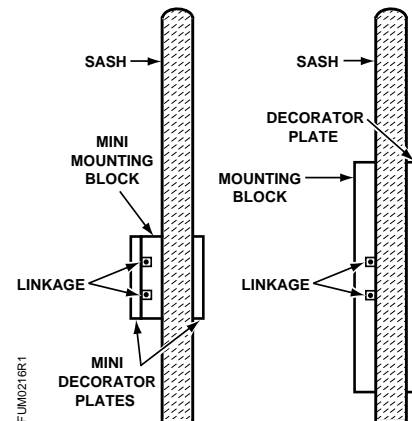

Figure 12. Mounting Block and Decorator Plate Installation for Regular and Mini Mounting Blocks.
11. **For linkage blocks mounted inside of the fume hood and on the glass.** Align a decorator plate (that is the same size as the mounting block) on the front of the sash glass. Clean the decorator plate mounting area with the alcohol towelette. Peel the protective backing from the decorator plate. Line up the edges of the decorator plate with the edges of the mounting block. Press the plate firmly to the sash glass. See Figure 12.